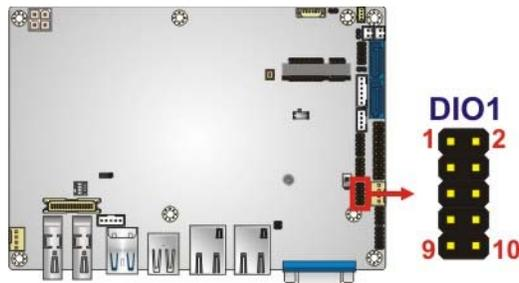

Figure 3-5: Digital I/O Connector Location
- CN Location:** See Figure 3-5